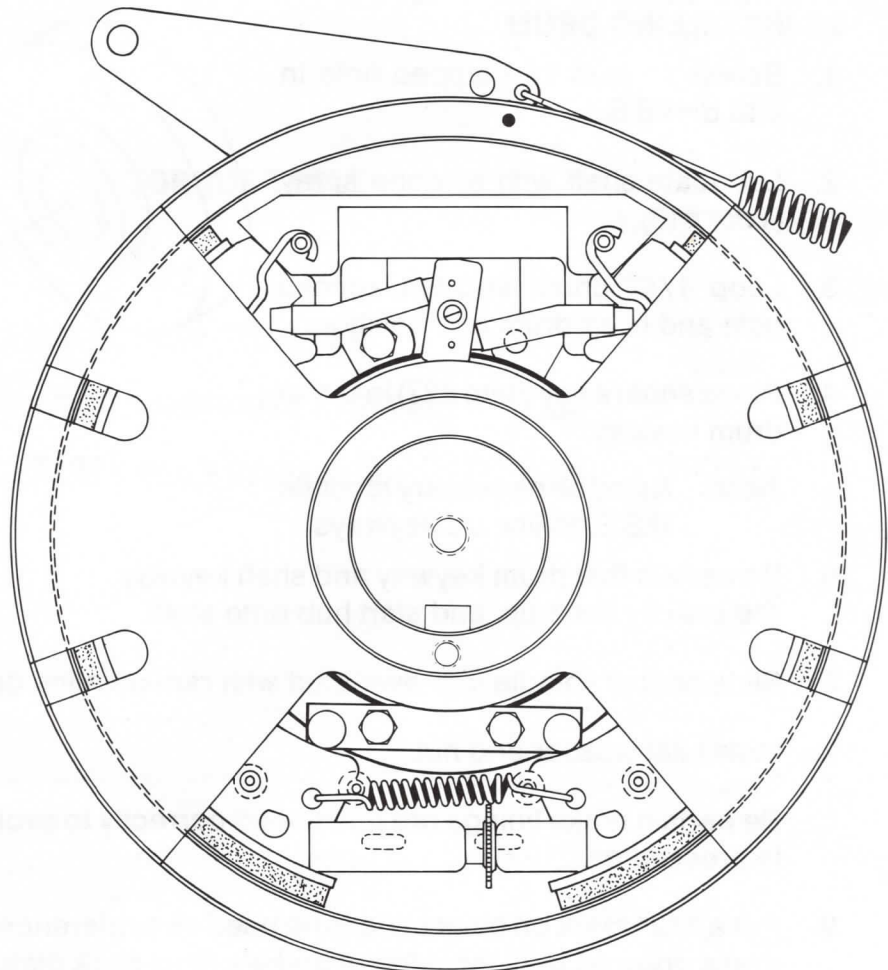

Fig. 36
12. Back linings of shoes away from set-up drum by turning star wheel the amount of 5 clicks or 1/4 turn for old brake drum; and 10 clicks or 1/2 turn for new brake drum (set-up drum shown in position, Fig. 36).